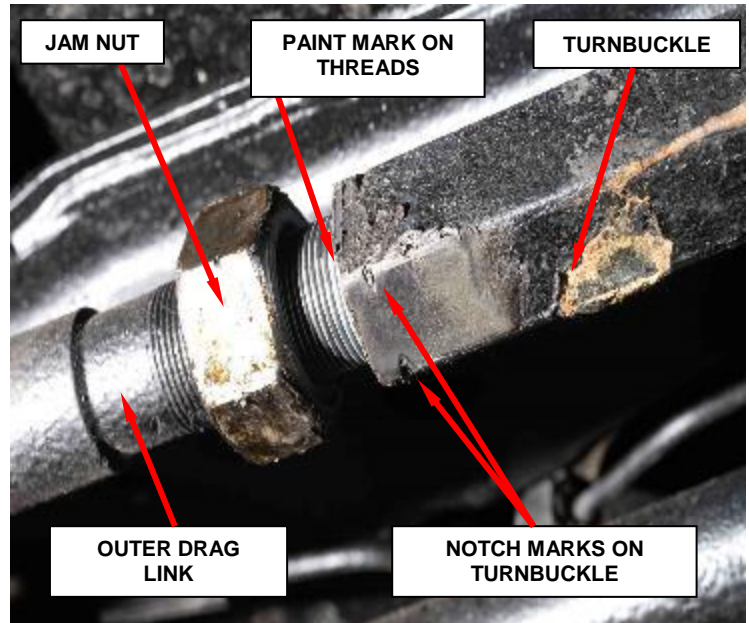

Figure 3 – Paint Mark on Threads
2. Paint mark threads of outer drag link at turnbuckle (Figure 3).